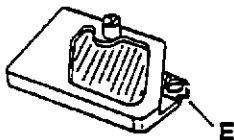

Figure 5
The plastic cutter **PILLAR POST**, Figure 5, utilizes a replaceable cutting blade (E), 10 of which are provided in the parts bag. Replacements are available as Part No. 2433. Install this blade by loosening the holding screw. Slide the blade in place with its point oriented downward as shown, then tighten the screw.